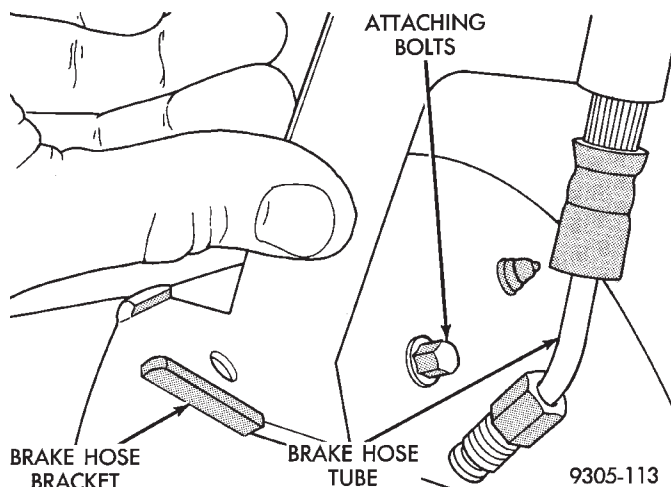

Fig. 21 Brake Hose Bracket And Tube Nut
(9) If vehicle is equipped with rear disc brakes, install rear braking disc on hub. If vehicle is equipped with rear drum brakes, install the brake drum on hub.
(10) If vehicle is equipped with rear disc brakes, install rear braking disc on hub. Carefully install rear brake caliper over braking disc and install on adapter. Tighten the caliper assembly to adapter mounting bolts to 22 N•m (192 in. lbs.). Refer to Rear Disc Brakes in Group 5 Brakes in this service manual for required caliper installation procedure.
(11) If vehicle is equipped with rear drum brakes install rear brake flex hose onto wheel cylinder and support plate (Fig. 21). Torque the brake hose to